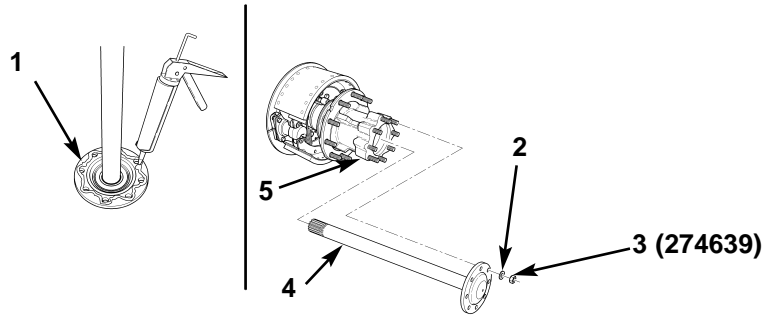

Figure 17. Installing Axle Shaft.
30. Remove old adhesive from axle shaft flange (figure 17, item 1), clean surface, and apply new adhesive to axle shaft flange (figure 17, item 1).
31. Install axle shaft (figure 17, item 4) on rear hub (figure 17, item 5) with eight washers (figure 17, item 2), and new locknuts (figure 17, item 3).
32. Position suitable tanker bar to prevent rear hub (figure 17, item 5) from turning clockwise, and tighten eight locknuts (figure 17, item 3) to 90–120 lb-ft (122–163 N•m).